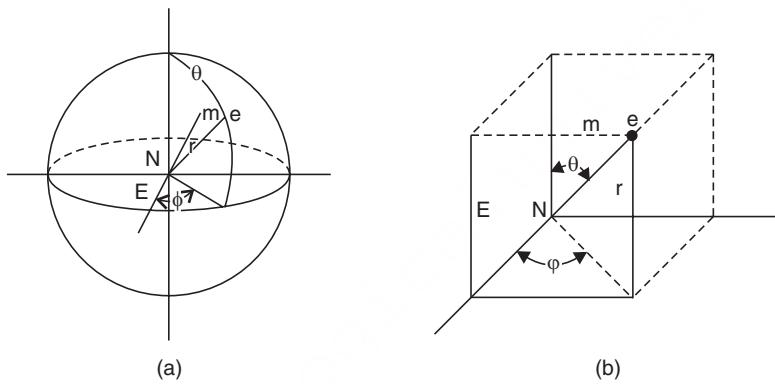

Fig. 1.3
where r , θ and ϕ are the polar co-ordinates of the electron with respect to the nucleus (N) as origin [see Fig. 1.3 (a) and (b)].